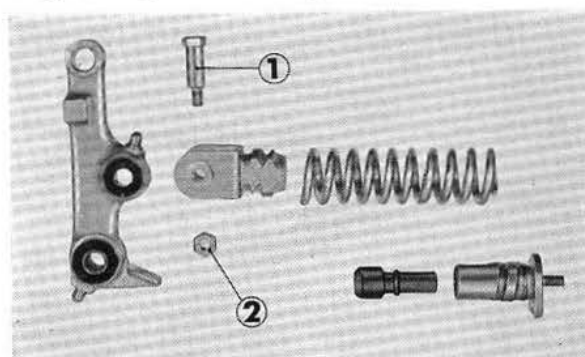

Fig. 4-10 ① Front cushion under bolt ② 6 mm nut
- Remove the 6 mm nut and loosen the front cushion under bolt, and the front cushion; suspension can be disassembled. (Fig. 4-10)